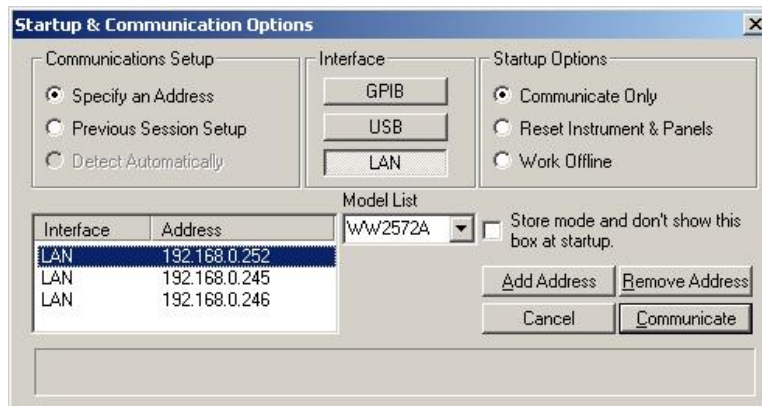

Figure 4-28, Assigning Master and Slave Addresses
6. Select the LAN Interface and add the master and slave addresses as shown in Figure 4-28.